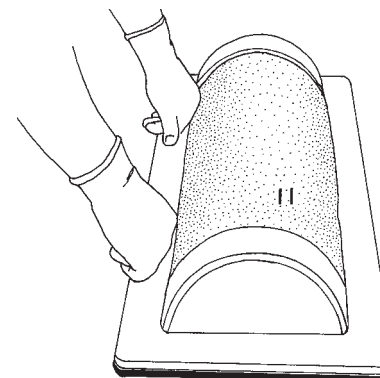

fig 18
4. Replace the upper frame and fix it in position with the black turnclips **fig 18.**